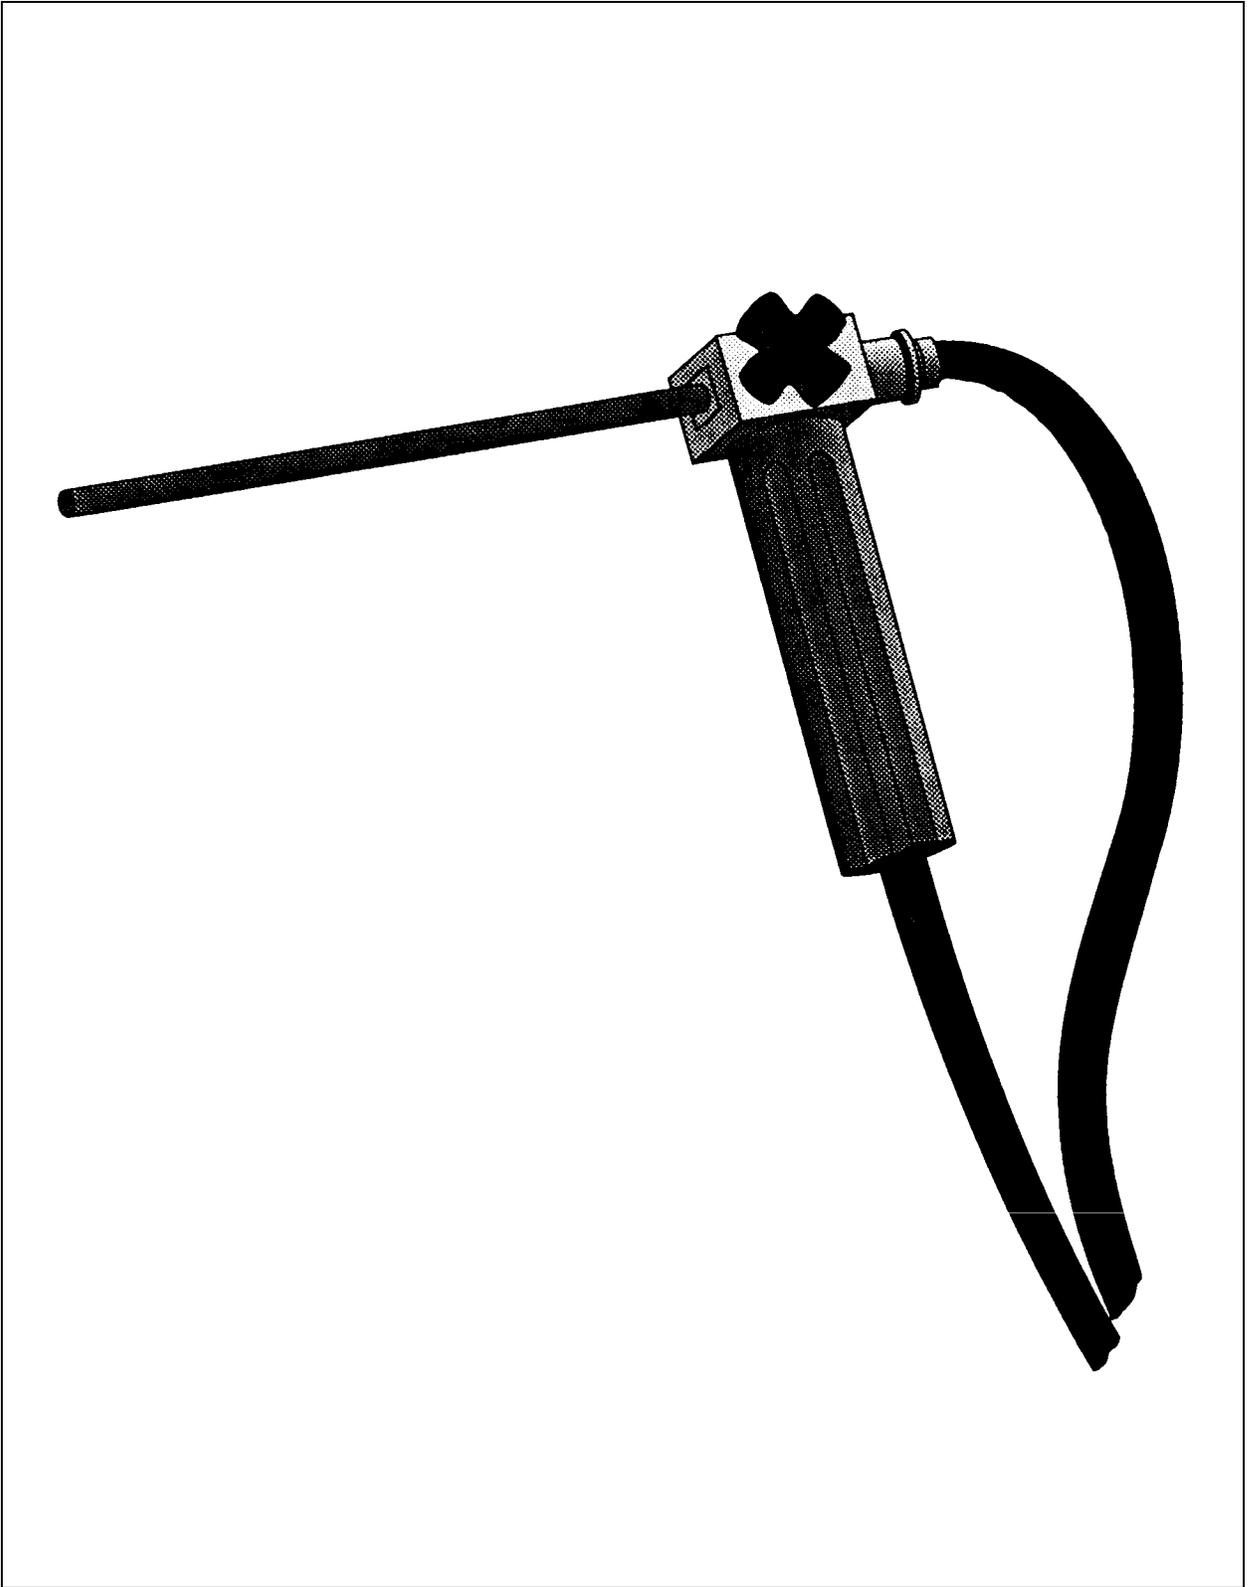

Figure E-1. Arcwater Torch Assembly.
**E-2.4.3 Arcwater torch.** The arcwater torch (Figure E-1) is electrically insulated and completely waterproofed except in the area where the electrode is inserted. It is small and well balanced, designed to minimize diver fatigue.